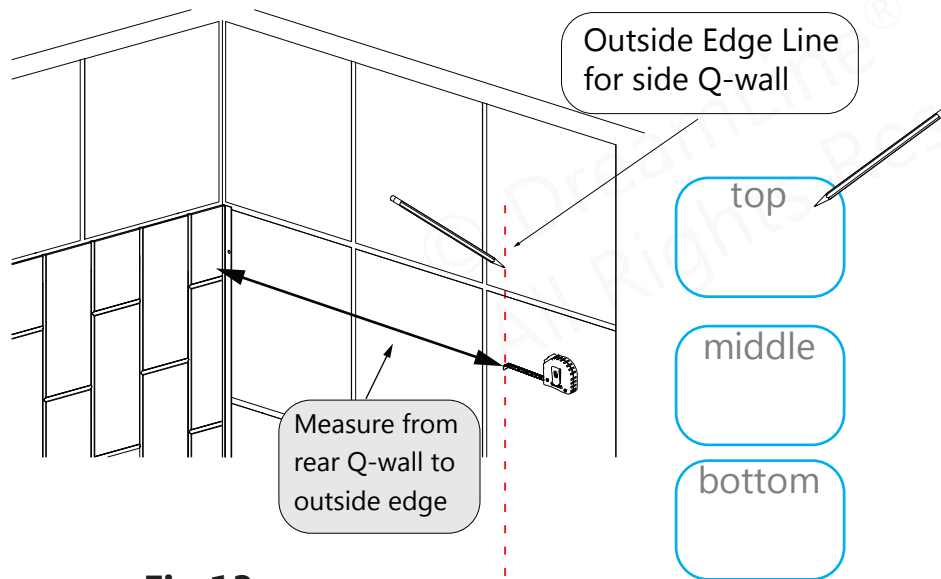

Fig 13
13. Measure from the installed **Q-Wall Back Panel** to the intended outside edge on both side walls. **Fig 13**